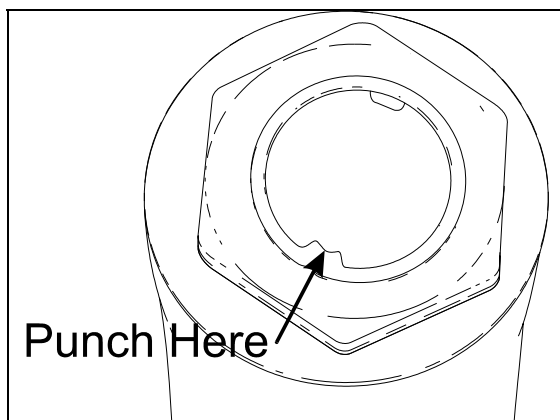

FIGURE 6: FIXING NUT PUNCH MARK
3. Lock nut with sector shaft using a punch mark into the groove (Refer to figure 6).
The power steering reservoir is located on R.H. side of engine compartment and accessible through the engine compartment doors. (Fig. 6).